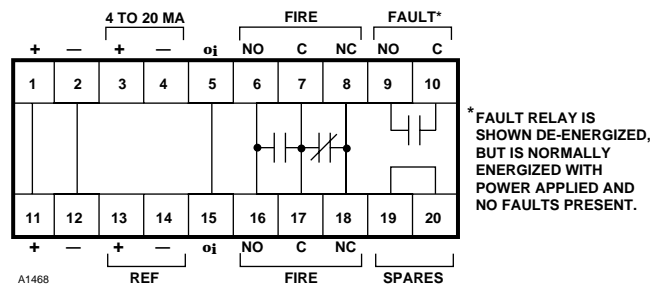
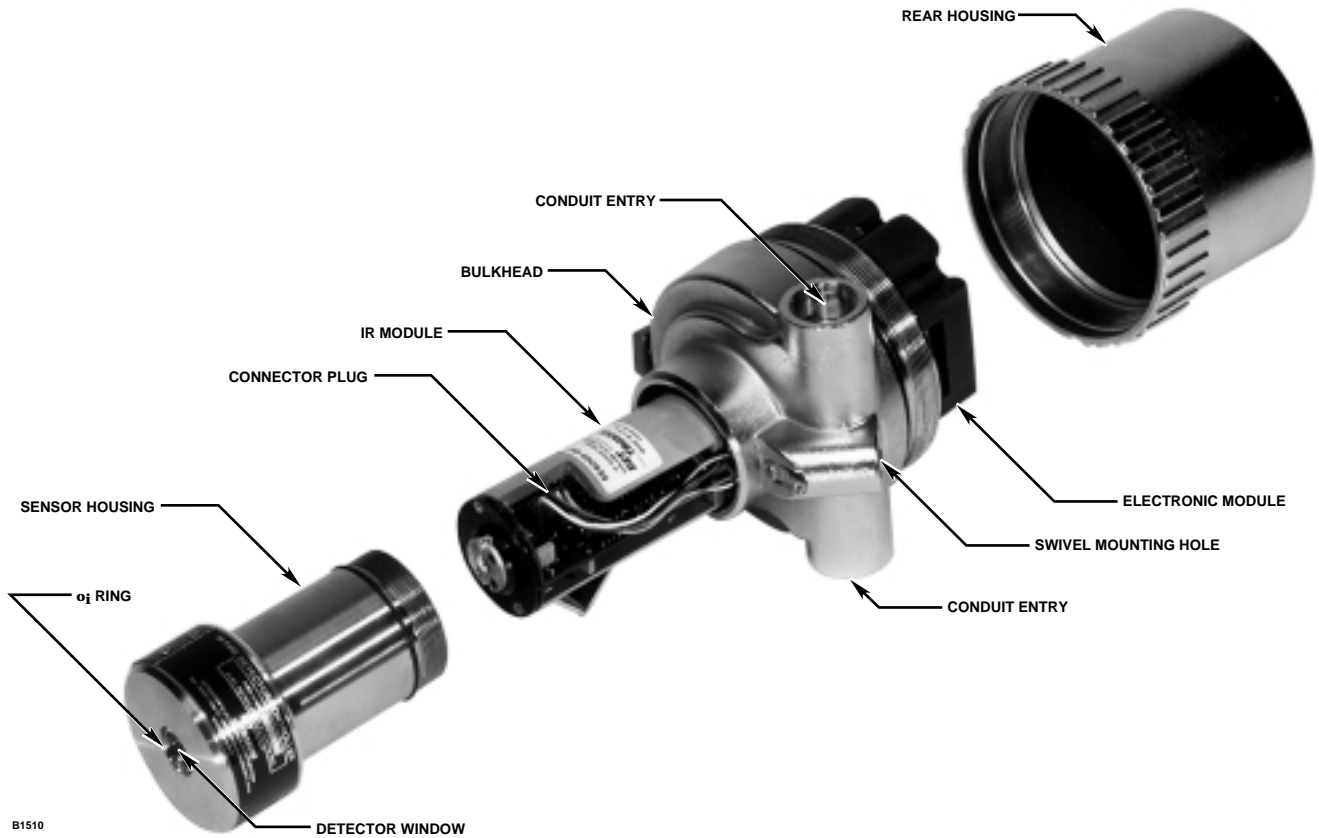
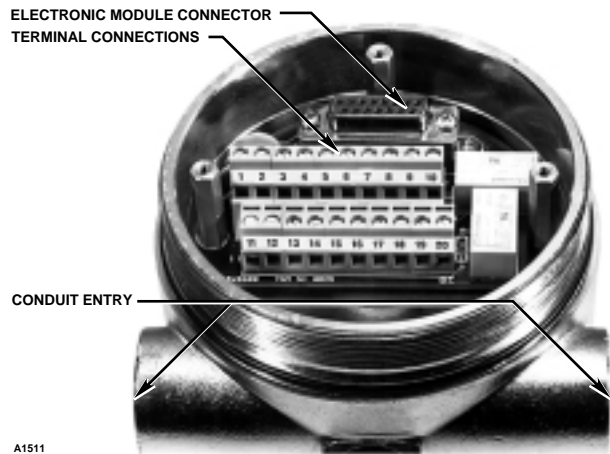
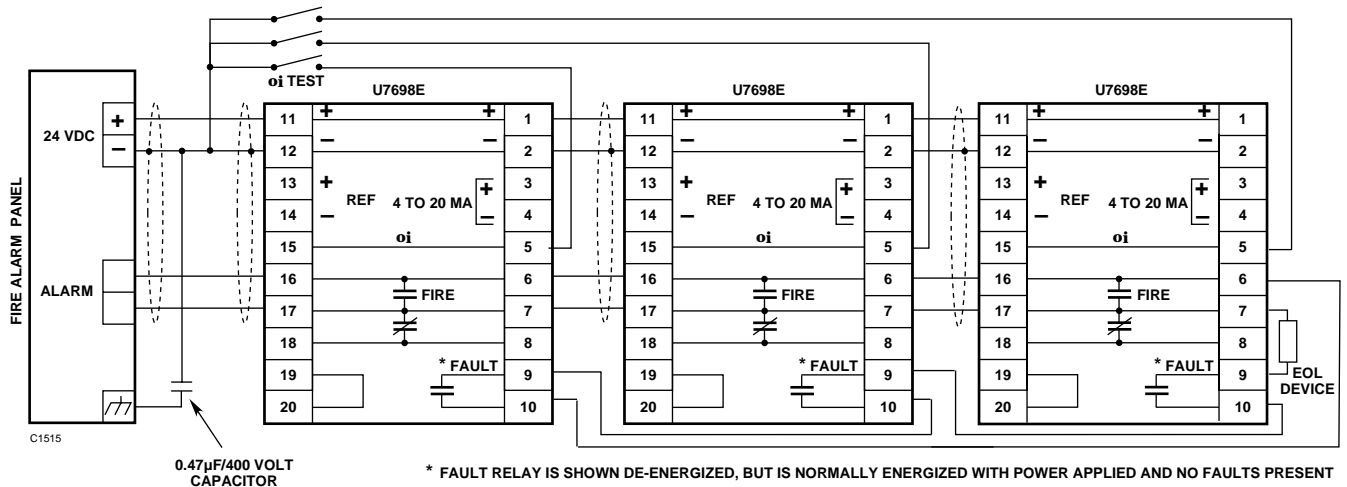

Figure 4—U7698E Terminal Configuration
Figure 5—U7698E Detector/Controller Assembly
Figure 6—Terminal Location Inside Bulkhead
Figure 7—A Typical System
The following procedure should be used for mounting and wiring the U7698E. Refer to Figure 4 for terminal configuration, Figure 5 for parts identification, Figure 6 for location of the terminals and Figure 7 for typical system wiring.
3. Remove the rear housing from the bulkhead by turning it counterclockwise (see Figure 5). If the detector is equipped with a locking cover device, this must be loosened in order to remove the rear housing (see Figure 9).